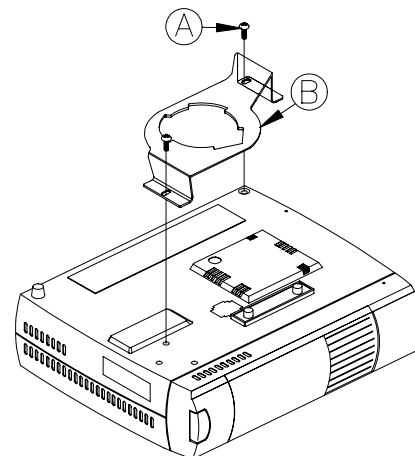

Fig 3
To install the mounting bracket to the projector secure the bracket with two (2) 4 (mm) x 10 (mm) Phillip screw (Supplied) to the front of the projector. Install the two (2) 3 (mm) x 10 (mm) Phillip screw (Supplied) to the rear of the projector. Do not over tighten the screws. See (Fig 3).